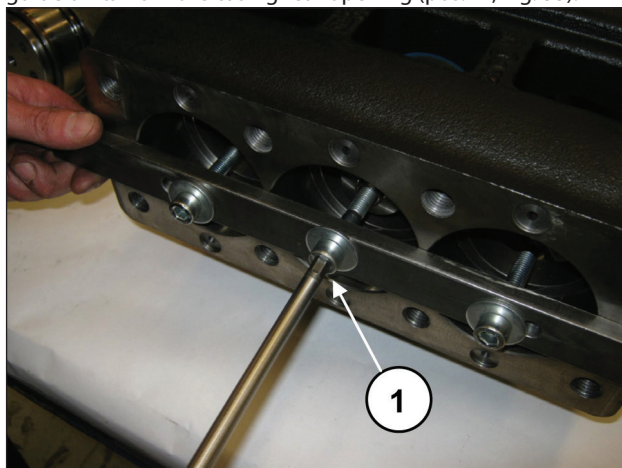
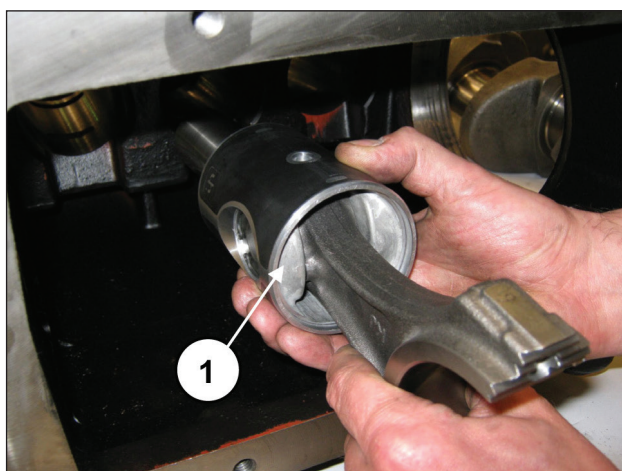

Fig. 32
Fig. 33
In the event that it is necessary to replace one or more conrods or piston guides, operate as follows: Unscrew the screws with tool code 27566200 to unlock the conrods (pos. ①, Fig. 32) and then extract the conrod-piston guide units from the casing rear opening (pos. ①, Fig. 33).
Remove the tool for blocking the conrods code 27566200 (pos. ①, Fig. 32).